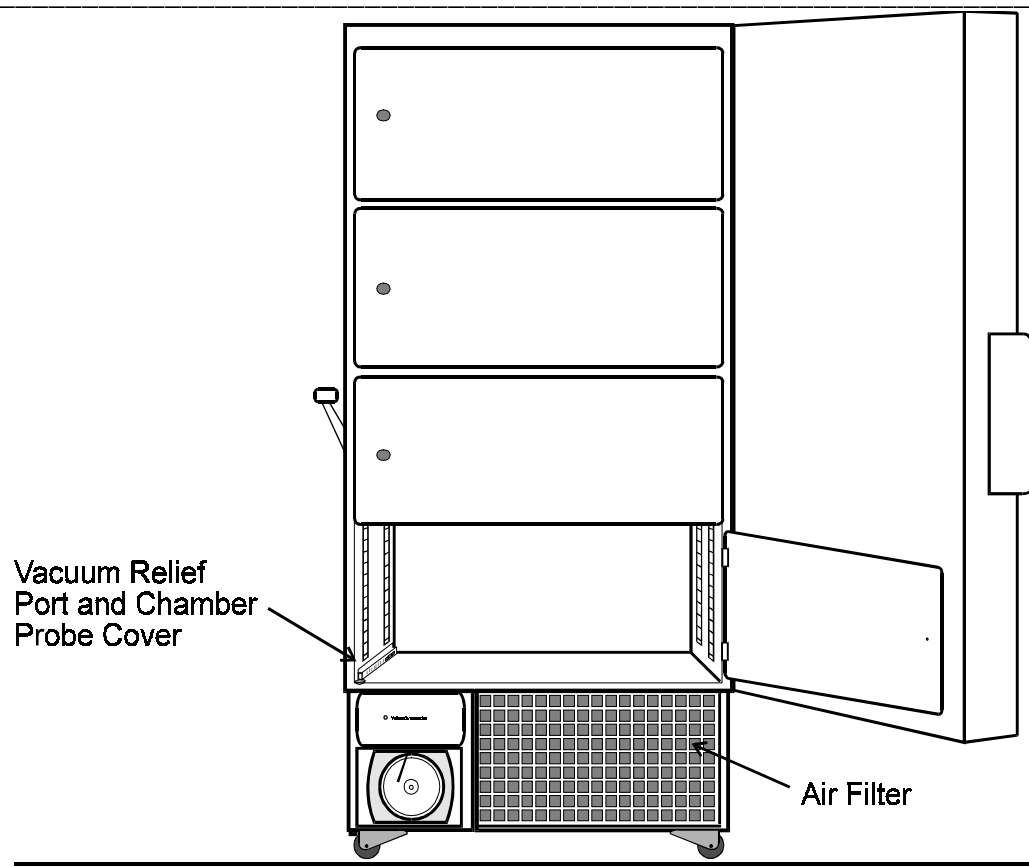

Figure 6-1
6.2 Cleaning the Air Filter (Refer to Figure 6-1)
6.5 Cleaning the Vacuum Relief Port (Figures 6-1 and 6-2)